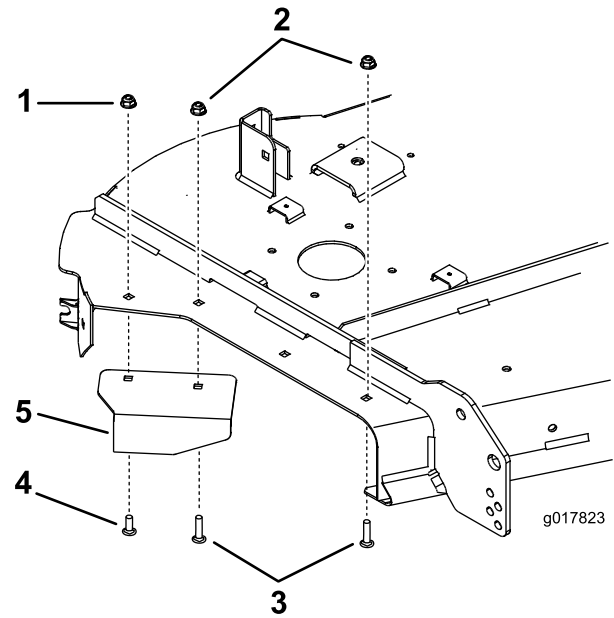

Figure 25
3. Install a carriage bolt and flange nut into the front hole show in Figure 25.
2. Install the existing baffle with the existing bolts and nuts after removing the plate assembly (Figure 25).